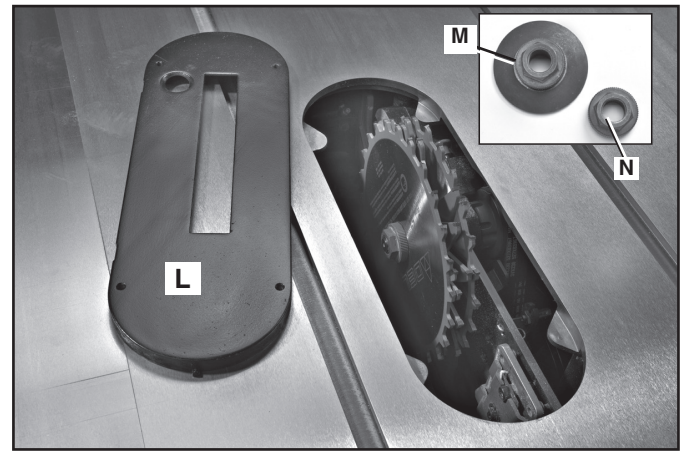

FIG. 65
▲CAUTION: The accessory dado head set throat plate (L) Fig. 65 must be used in place of the standard throat plate. Be sure the throat plate is level to the table before you proceed.
NOTE: The standard outer arbor flange nut assembly (M) Fig. 65 cannot be used with dado blade sets. A special nut (N) is included with the Unisaw to be used in dado applications. Tighten this arbor nut against the dado blade set. **Do not discard the outer arbor flange nut. It will be needed when reattaching the standard blade to the arbor.**
4. Attach the dado head set to the saw arbor using the arbor nut (N) Fig. 65.
NOTE: The standard outer arbor flange nut assembly (M) Fig. 65 cannot be used with a molding cutterhead. A special nut (N) is included with the Unisaw to be used in these applications. Tighten this arbor nut against the molding cutterhead. **Do not discard the outer arbor flange nut. It will be needed when reattaching the standard blade to the arbor.**